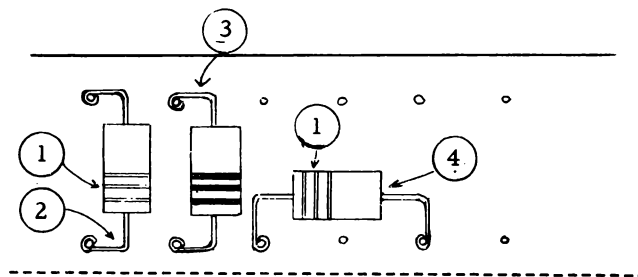

Figure 3-19
a. The color coding on components mounted on resistor boards will be left to right, front to back. (The side of the resistor board furthest from the metal fish plates is considered the front side.) (1, Figure 3-19.)
b. All components should have a relief bend. (2, Figure 3-19.)
c. Components should be mounted to the right of the CTC terminals, provided this is the prevailing direction of all rework in that area. (3, Figure 3-19.)
d. Components mounted parallel to the resistor boards length should be mounted on the inside of the CTC terminals, provided they will not interfere with other components. (4, Figure 3-19.)